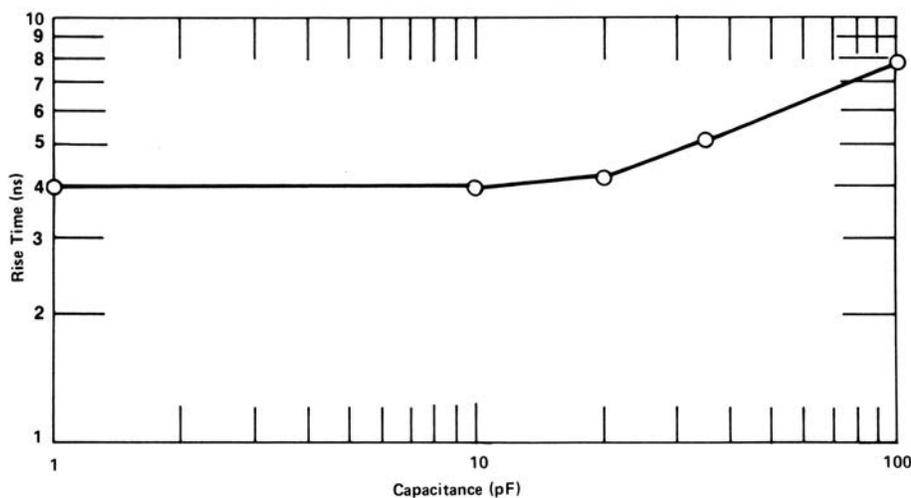

Fig. 3. Typical Rise Time as a Function of Input Capacitance with Rise Time Compensation Optimized at Each Data Point.
Fig. 3. Typical Rise Time as a Function of Input Capacitance with Rise Time Compensation Optimized at Each Data Point. (Values given are for a +0.5-V signal into 93  $\Omega$  from the E channel.)
**RISE TIME (Fig. 3)**  $< 5$  ns at 0 pF;  $< 12$  ns at 100 pF; with a 0 to +0.5-V pulse at the ENERGY output and a  $93\text{-}\Omega$  load.
**TIMING** Negative or positive linear fast-clipped pulse for timing. Output generated by using an inverting transformer which differentiates the energy output. Rise time approximately equal to the rise time of the energy output (Fig. 3). BNC connector.